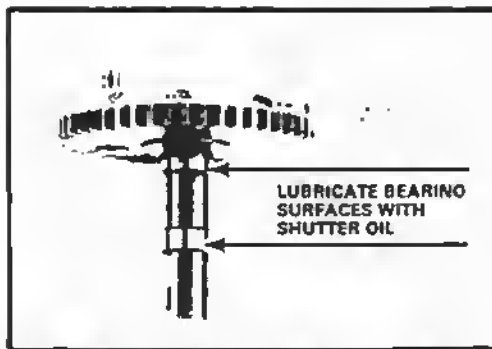

Figure 181 Opening-curtain wind gear
**LUBRICATION:** Notice the two bearing surfaces on the shaft of the opening-curtain wind gear, Fig. 181. Lightly lubricate these two surfaces with shutter oil.